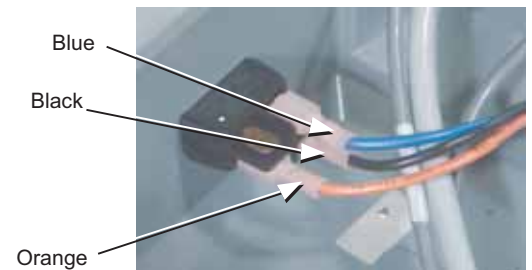

FIGURE 24
4. Snap in new switch and reattach wires, ensuring that the color coded wires are in the correct position. (figure 24)